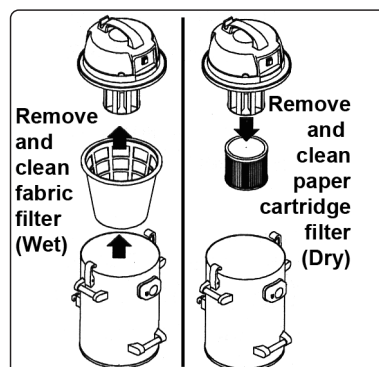

fig.11
- 6.1.1. Remove the vacuum cleaner head to access the filter. Refer to Fig.11.